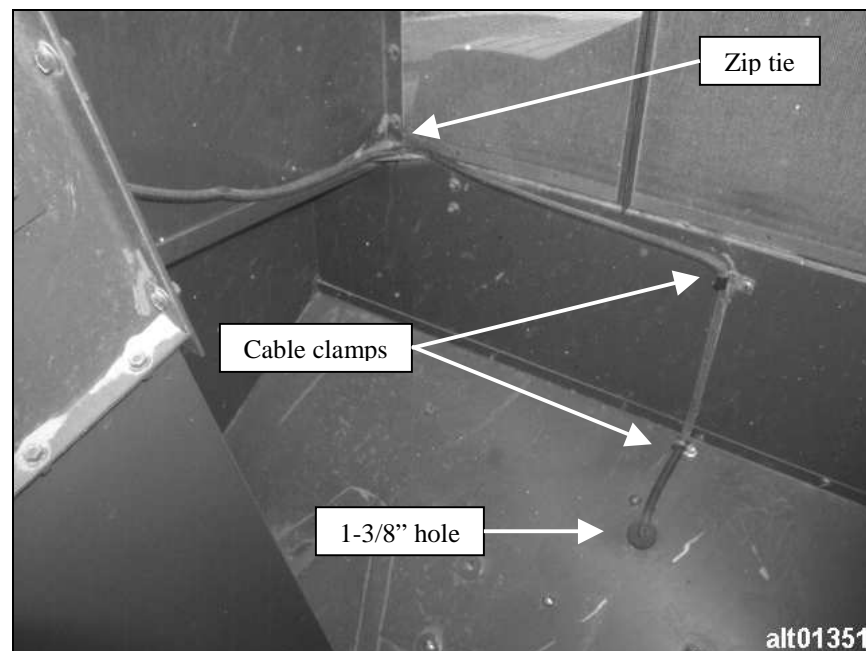

Figure 22. Hole in floor of grain tank
- C. Drill a 1-3/8-in. hole in grain tank floor as shown in Figure 22. A hole saw is **NOT** provided for this procedure.
- D. Route flow sensor cable down through hole. Secure cable using cable clamps and zip ties also shown in Figure 22.